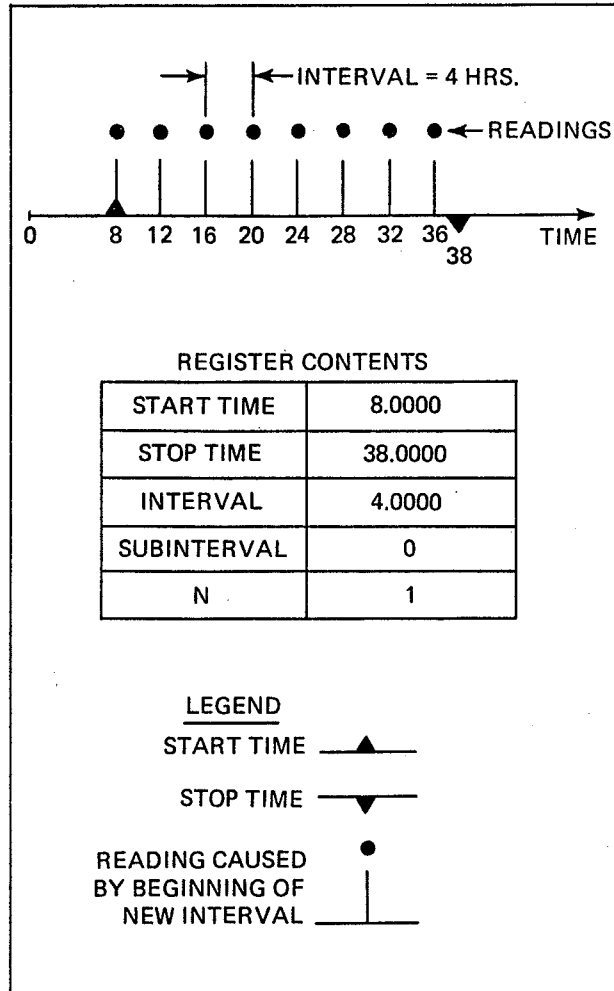

Figure 3.11 - Example of Start, Stop, and Interval Registers
3.4.11.8 Interval, Subinterval and N Registers: Once inside the Start-Time/Stop-Time window, the Interval, Subinterval and N registers control the triggering of readings. An example is shown in Figure 3.11, where the subinterval and N registers have been set to their power-up value and the Interval register is controlling the time between readings. Notice that once the Start Time is reached, the DMM's Interval register triggers a reading every Interval time until the Stop Time is reached.